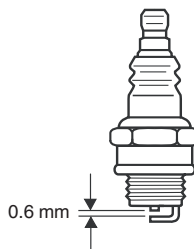

Fig. 33
3. Clean the spark plug if it is dirty. Check the electrode gap. The correct gap is 0.6 mm. (Fig. 33)